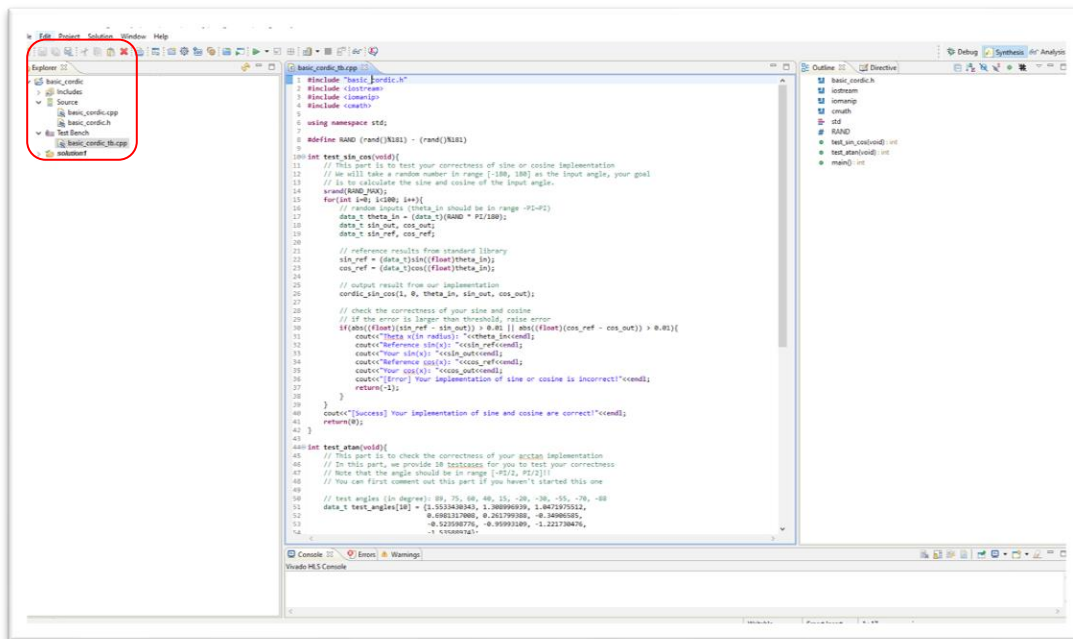

Figure 5: Project is successfully created.
- f) After the project is successfully created, you should be able to see the source code and testbench on the left column. Please find Figure 5 for reference.